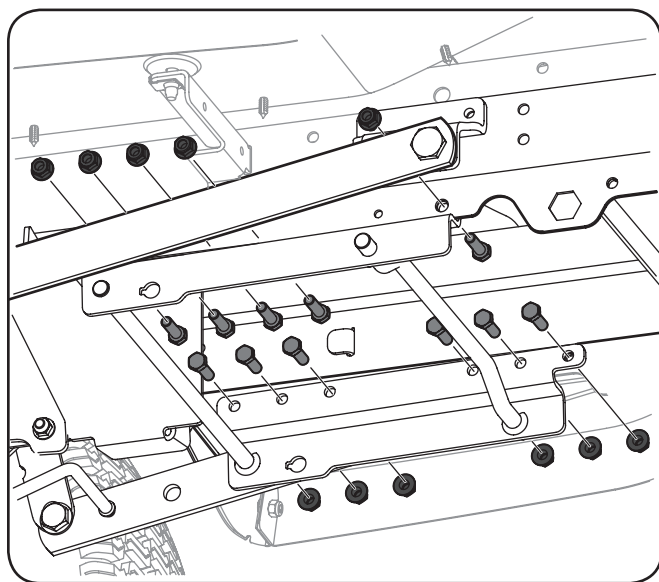

Figure 3-5
5. Remove the template from the frame and secure the carriage hanger brackets to the tractor's frame with 11 hex screws (five on the right and six on the left) and flange lock nuts. See Figure 3-5.